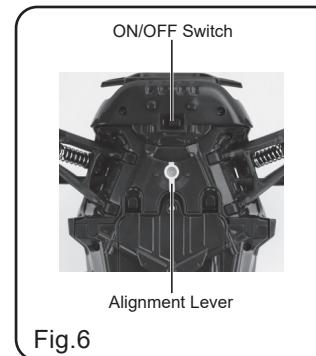

Fig.6
4. If the vehicle does not run in straight line, adjust the wheel alignment lever on the vehicle chassis (Fig.6).